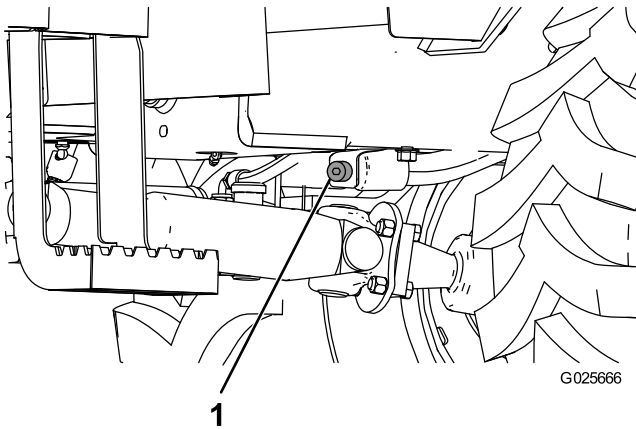

Figure 30
3. Remove the filler cap and the drain plug (Figure 30).